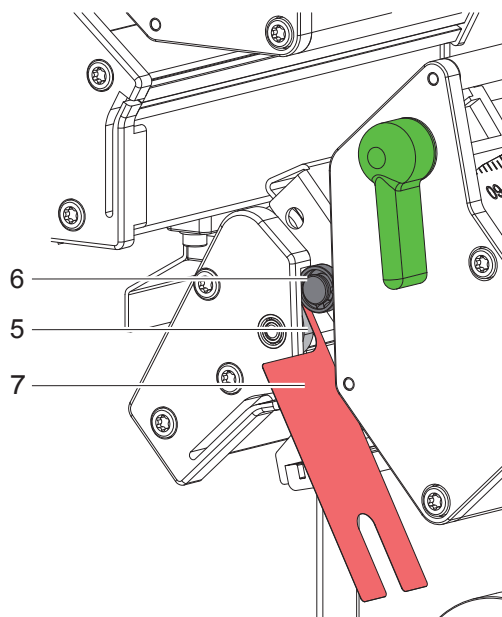

Fig. 30 Checking distance eccentric - ball bearing
9. Check the distance between ball bearing (6) and eccentric (5) with the caliber 0.1 mm (7) ► Fig. 30.